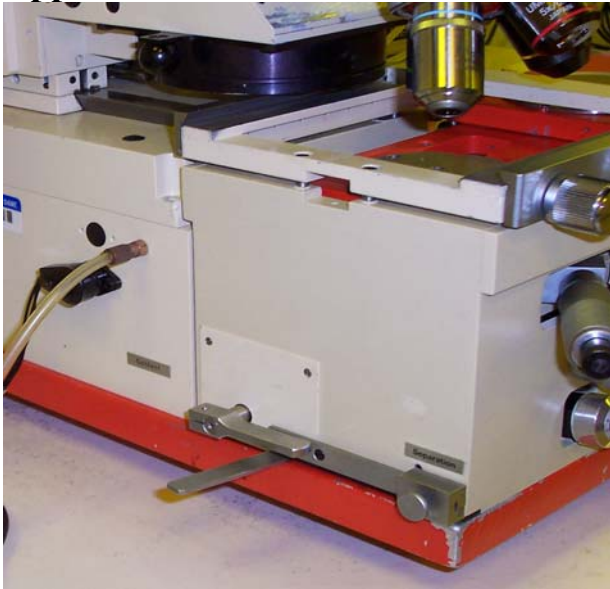

Figure 7 Contact Lever (rotation shown in chuck lowered position ) and Separation Lever (Slide shown in contact position)
4. Bring the sample into contact with the mask by rotating the contact lever counter-clockwise (toward the rear of the machine). (Figure 7)